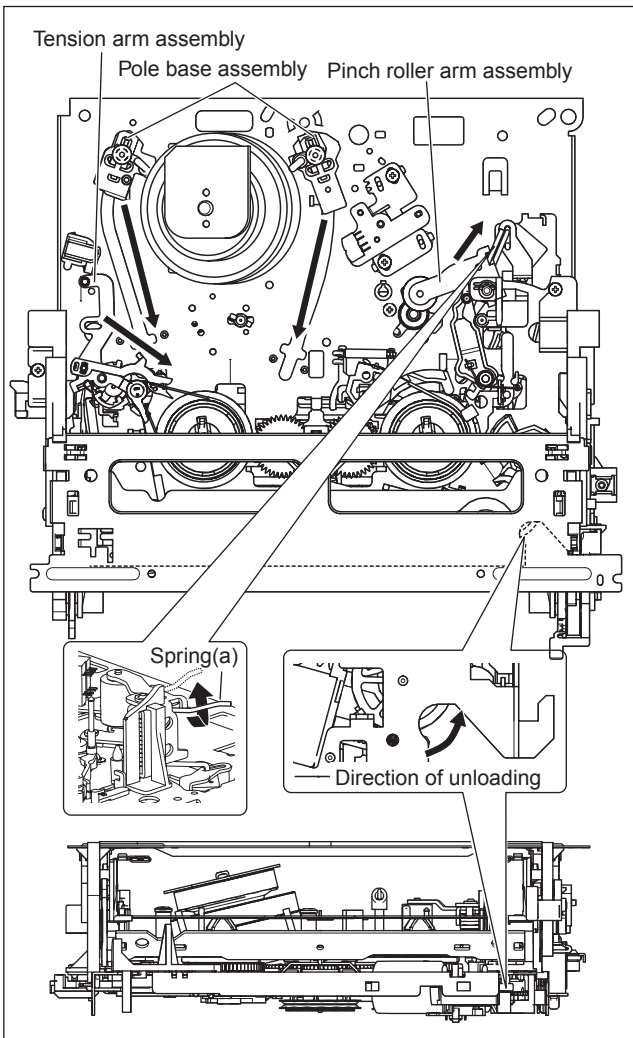

Fig.5-1b
- (3) Unload the pole base assembly by manually turning the gear of the loading motor until the pole base assembly is hidden behind the cassette lid. In doing so, hold the tape by the hand to keep the slack away from any grease. (See Fig.5-1b )
- (4) Remove the screw (a) of the side frame (L/R).
- (5) Hold the slack tape and cassette cover together, lift the cassette tape, top frame, cassette holder and side frames (L, R) together from the rear and remove them by dis-engaging the hooks (a) and (b).